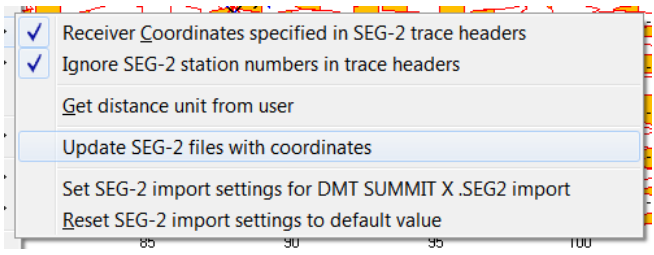

Fig. 17 : *File|SEG-2 import settings*
- check **File|SEG-2 import settings|Ignore SEG-2 station numbers in trace headers**. See Fig. 17.
- check **File|SEG-2 import settings|Receiver coordinates specified in SEG-2 trace headers** (Fig. 17).
Once you have updated SEG-2 trace headers with correct source and receiver x/y/z coordinates as described in previous paragraph you can import these updated SEG-2 files as shown above on first page with *SEG-2 import settings* as shown in Fig. 17. Also check import option **File, SEG-2 import settings, Receiver coordinates specified** before importing these updated SEG-2 trace files.